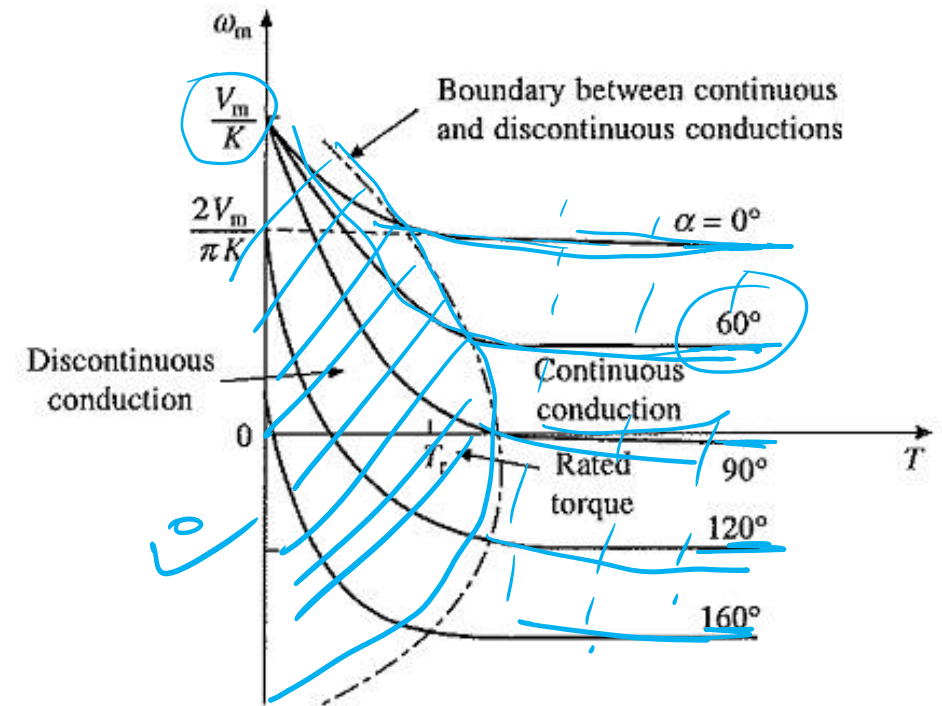

Fig. 4. Speed torque characteristics of single phase fully controlled rectifier Fed DC separately excited DC motor.
- Speed torque curves for the drive are shown in Fig. 4.
- The boundary between continuous and discontinuous conduction is shown by dotted line (Fig. 4).